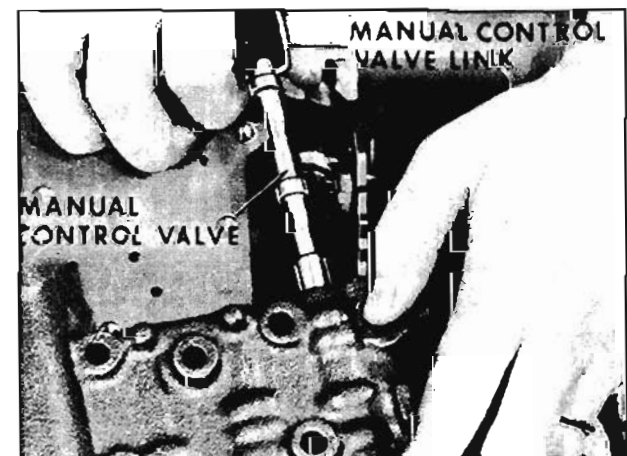

Fig. 6-459 Installing Valve Body
3. Install manual control valve and link into valve body assembly. (Fig. 6-459)